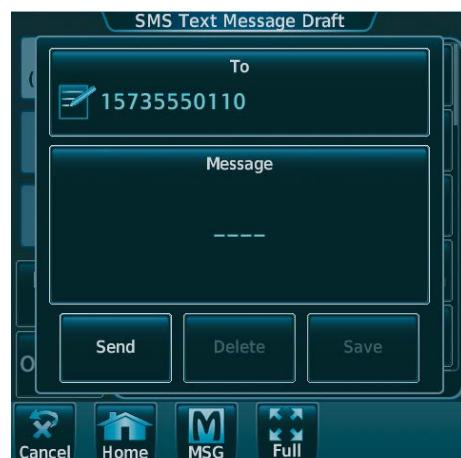

Figure 8-61 New Reply Message Screen
- 3) Touch the **REPLY** Button. The Opened SMS Text Message Screen is displayed as shown in Figure 8-61.